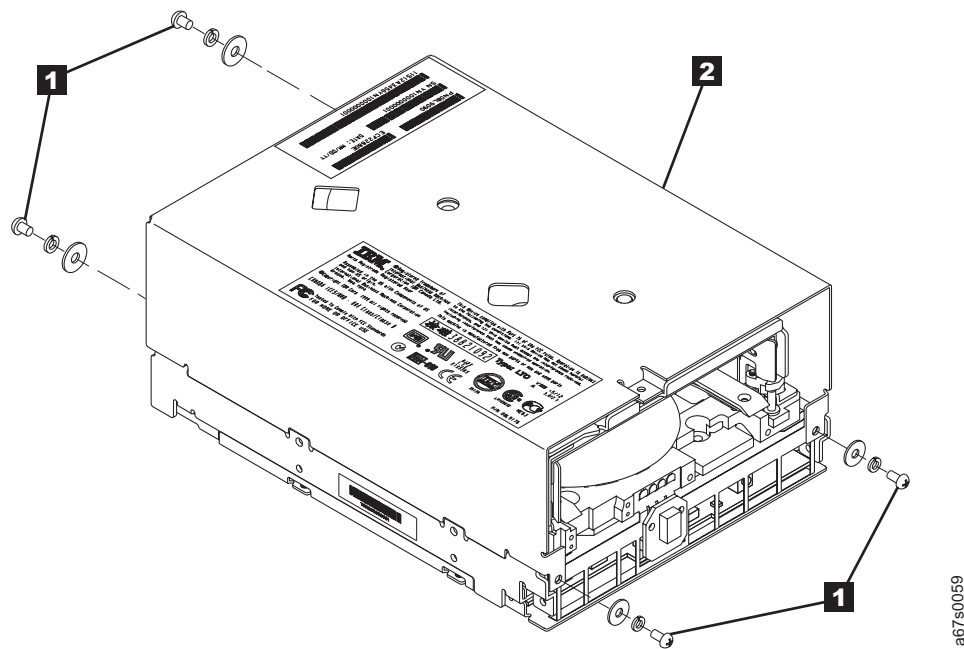

Figure 8. Removing the cover of the tape drive
- a. Remove the four cover-mounting screws and washers (see **1** in Figure 8 on page 11).